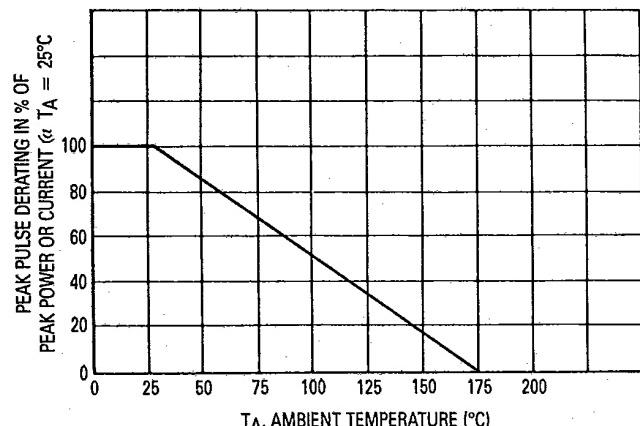

Figure 2. Pulse Derating Curve
- I_{PP}** Peak Pulse Current — See Figure 2